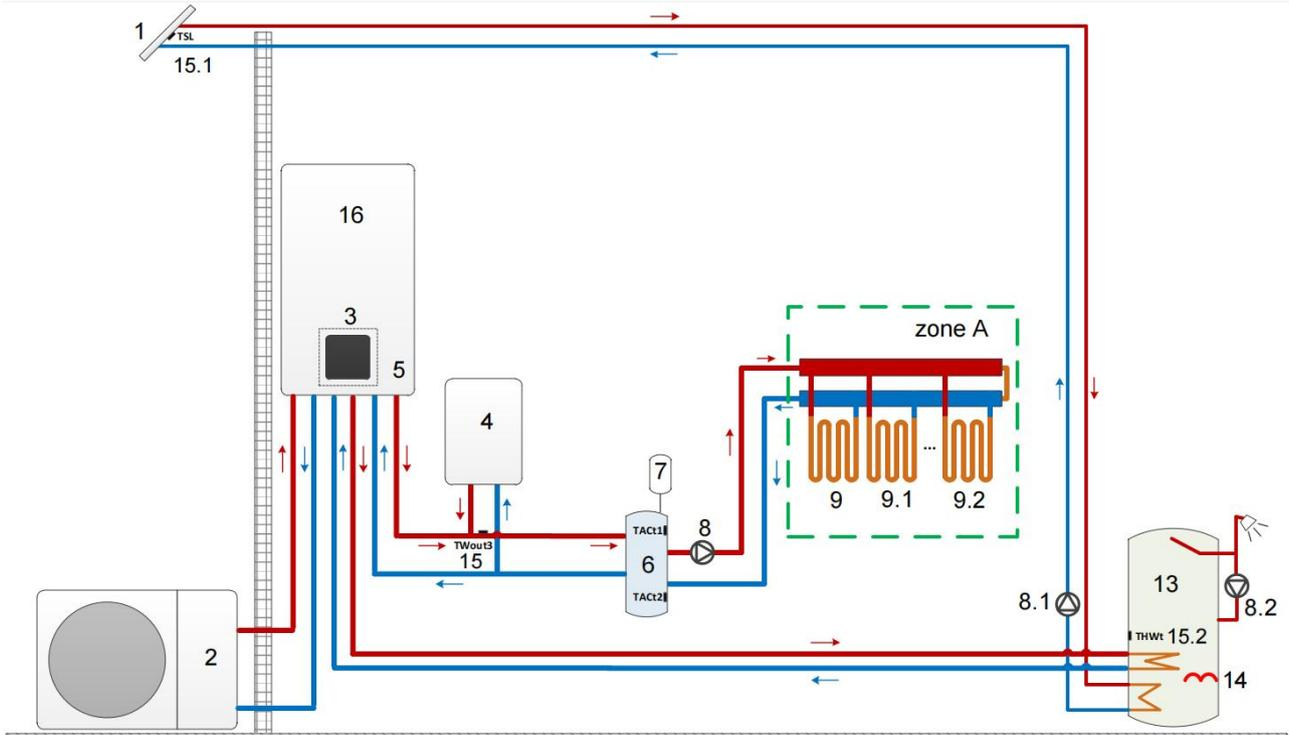
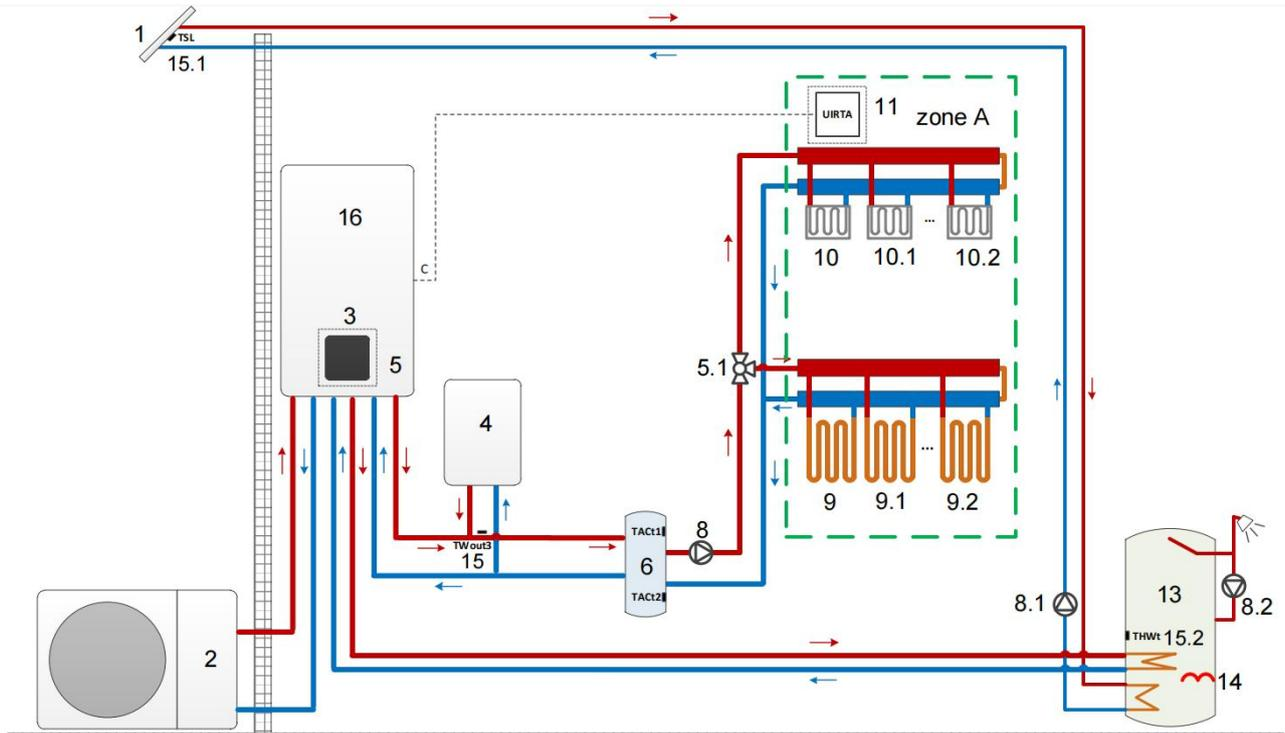
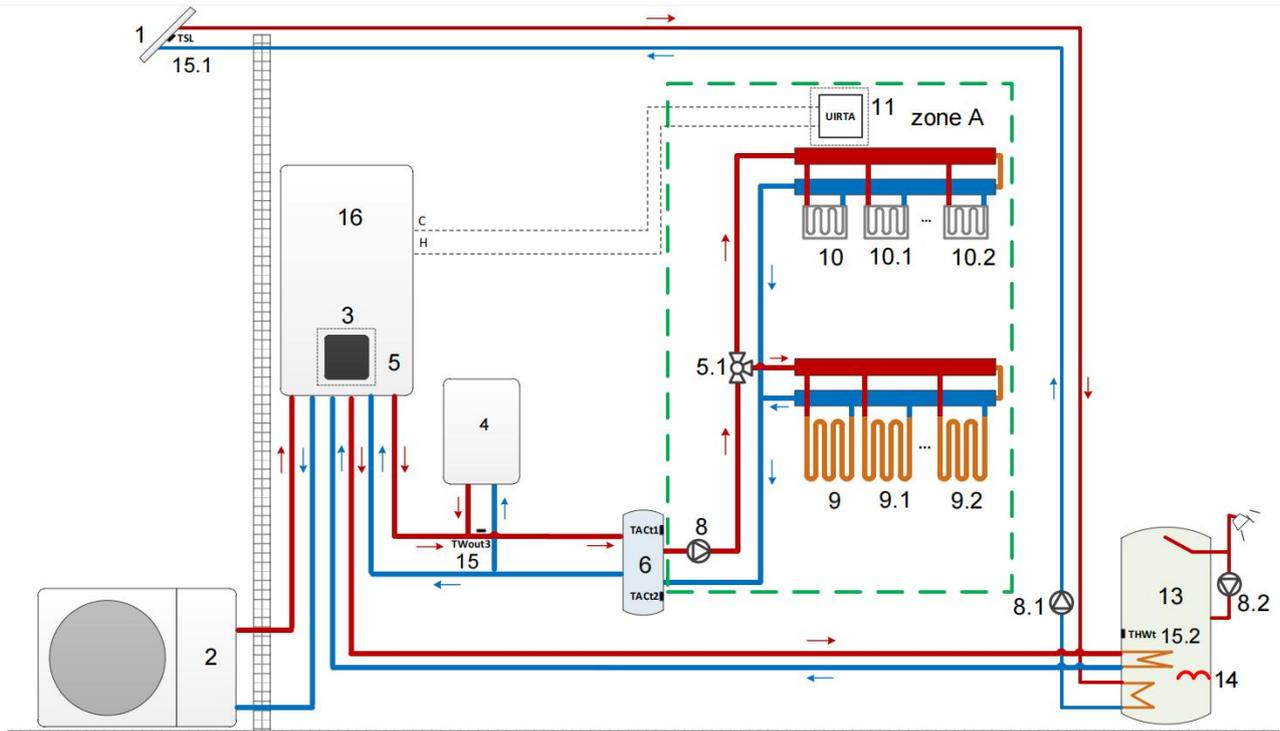
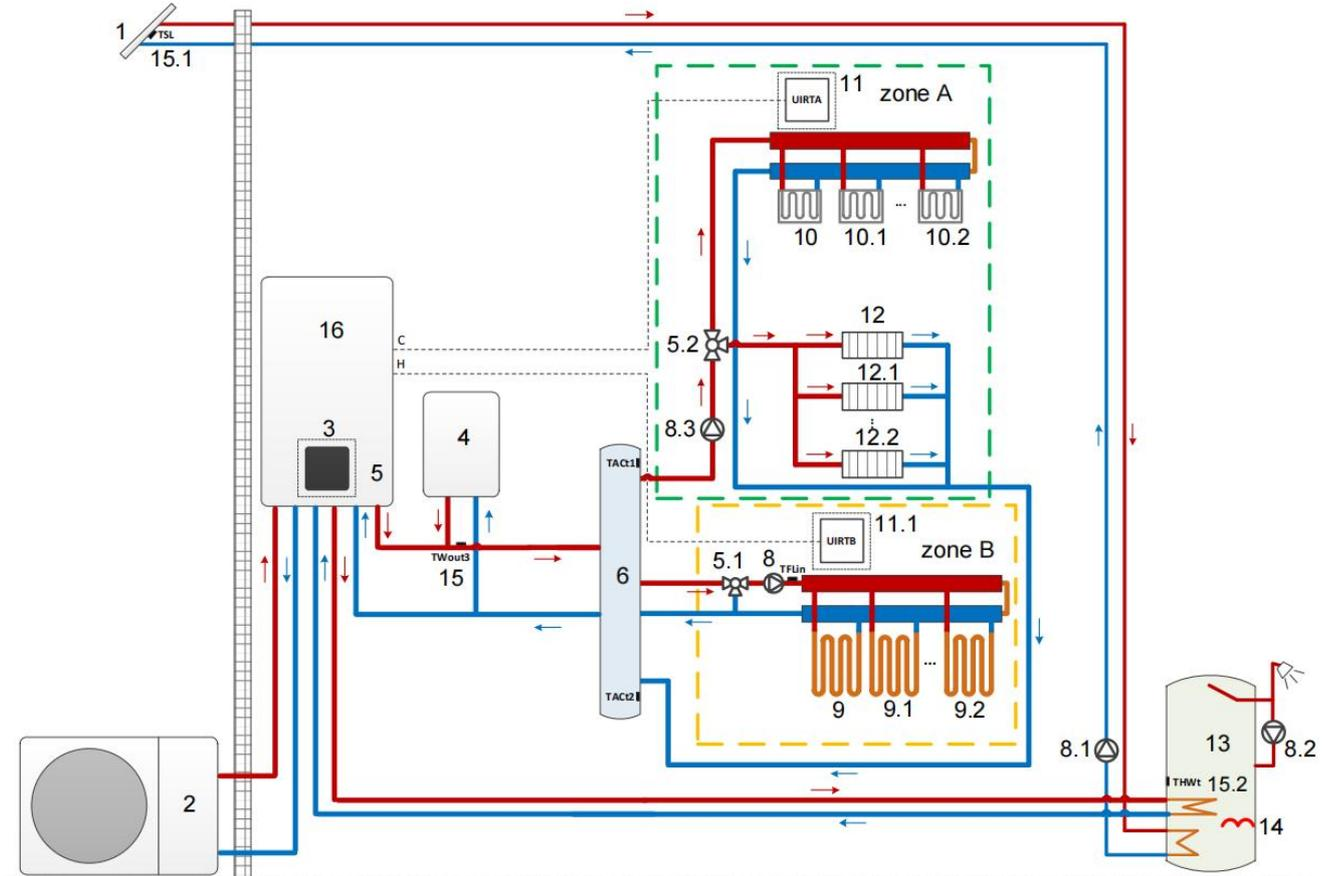

Figure 2
Figure 3
Figure 4
Figure 5
- 1) System installation diagram to see Figure 2, Figure 3, Figure 4, Figure 5.